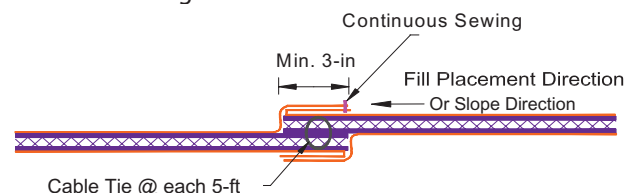

Figure 2 SSDL Panel Overlap Joint (Side-by-Side or End-to-End)
2. Adjacent SSDL rolls (Side-by-Side joint) shall be overlapped as shown in Figure 2.
1. Adjoint SSDL rolls (End-to-End joint) shall be overlapped or butted together, as shown in Figure 2 and 3. Typically, butt joint is recommended when the subgrade underneath is stiff and there is no drainage slope along roadway direct; overlap joint is recommended for other scenarios.